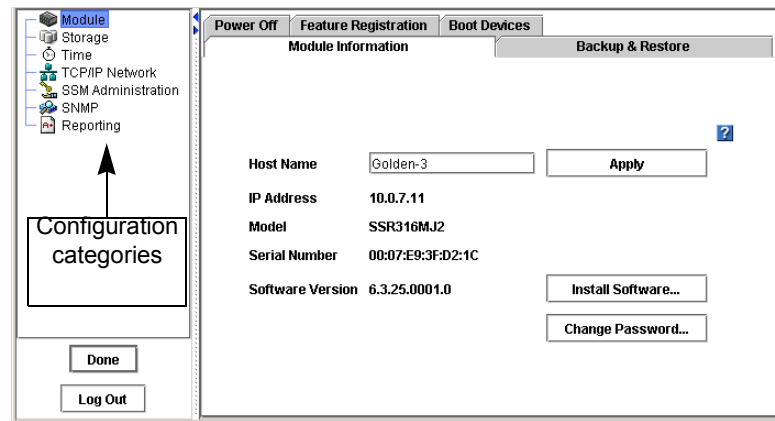
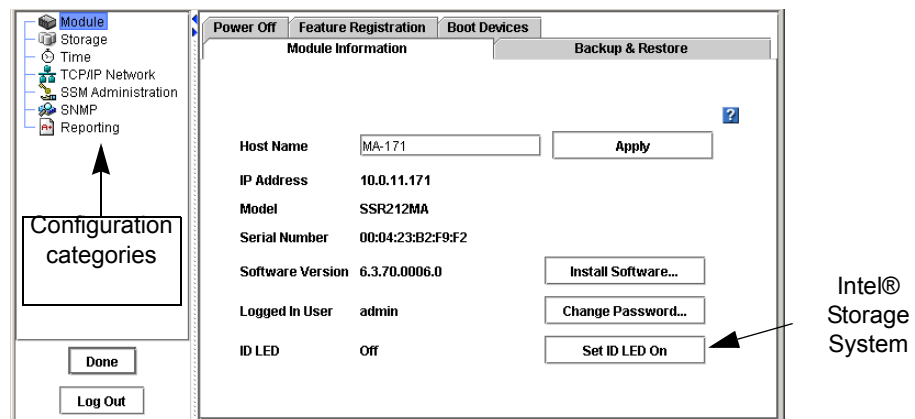

Figure 27. SSM configuration window for the Intel® Storage System SSR316MJ2
Figure 28. SSM configuration window for the Intel® Intel® Storage System SSR212MA
The SSM configuration window, shown in Figure 27, opens when you log into an individual SSM. From the configuration window you have access to all the configuration tasks for individual SSMs.
When you are successfully logged in, the SSM configuration window opens to the Module configuration category, shown in Figure 27 and Figure 28.
1. When the SSM Configuration window is open, click Log Out, as shown in Figure 27 and Figure 28.